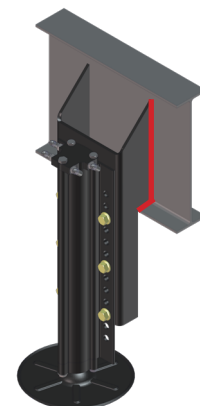

Fig. 10
11. By implementing a 1/4" weld bead, fully weld the bracket to the I-Beam from top to bottom on both sides of the bracket **(Fig.10)**. Make sure to avoid any hoses or wiring that may be in the welding area.